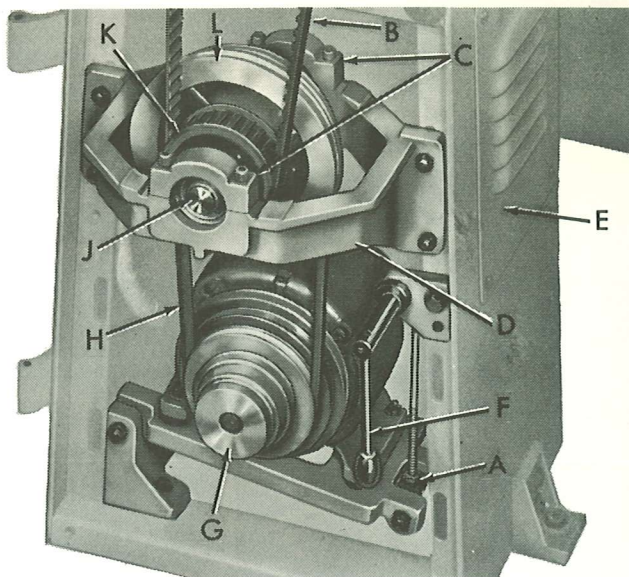

Figure 23
2. Remove clutch adjustment cover (E, fig. 23).
3. Raise belt tension lever (F).
4. Slip motor belt (H) off pulley (G).
5. Unscrew four socket cap screws holding front and rear bearing caps (C) on countershaft bracket (D).
6. Remove bearing caps (C).
7. Raise front of countershaft spindle assembly (J) out of countershaft bracket (D) just enough so timing belt (B) can be slipped off pulley (K) and spindle assembly (J).
8. Repeat step 7 procedure and remove motor belt (H).
9. Install new motor belt on countershaft spindle assembly (J) and place belt in desired groove of step pulley (L).
10. Replace timing belt (B) on pulley (K).
2. With belt tension lever (F, fig. 23) engaged (down), adjust nuts (A) until proper tension is obtained.